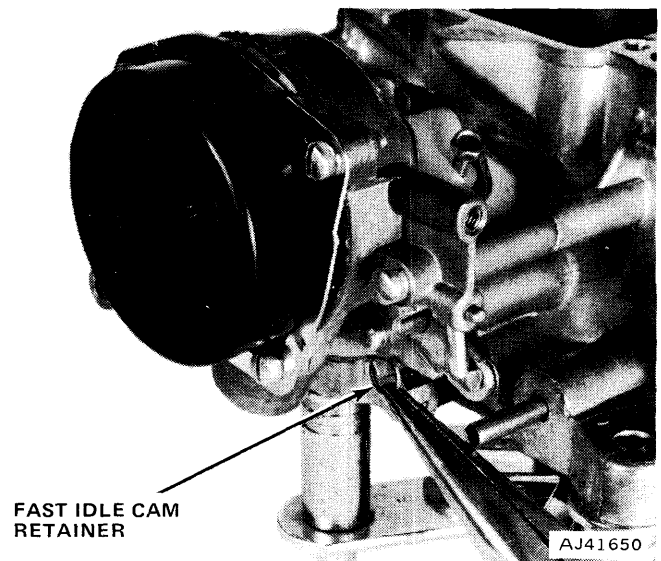

Fig. 4-72 Removing Fast Idle Cam Retainer
(6) Remove fast idle cam retainer (fig. 4-72).
(7) Remove choke shield.
(8) Remove thermostatic choke spring housing retaining screws and clamp, housing, and gasket.
(9) Remove fast idle cam rod from fast idle cam lever.
(10) Remove choke housing assembly retaining screws, housing assembly, and gasket.
(11) Remove fast idle cam.
(12) Remove thermostat lever retaining screw and washer. Remove thermostatic choke shaft and fast idle cam lever from the choke housing.